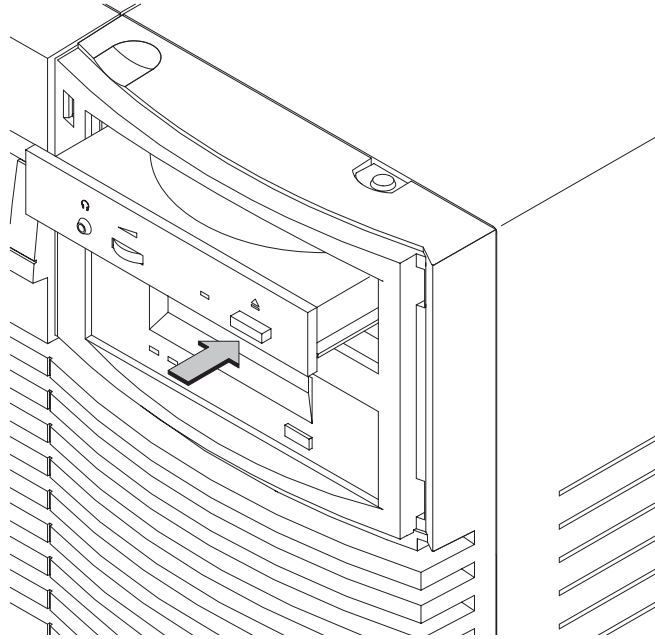

Figure 2-5. CD-ROM Disc Tray Partway Open
1. Press and release the eject button on the CD-ROM drive. The disc tray opens approximately 1 inch, as shown in Figure 2-5.